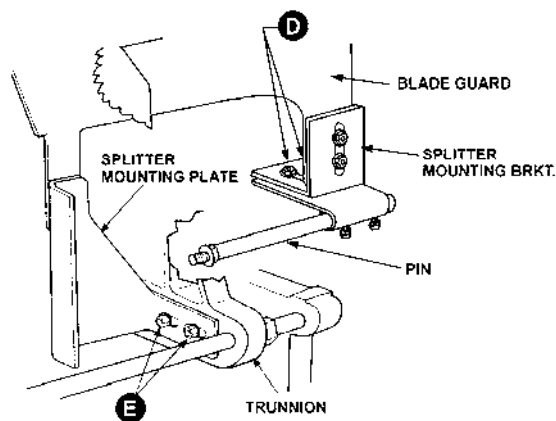

Figure 35
2. If splitter and blade do not line up, loosen the lower screws on the splitter mounting bracket (D, Figure 35) and the lower screws on the inside splitter mounting plate (E, Figure 35).